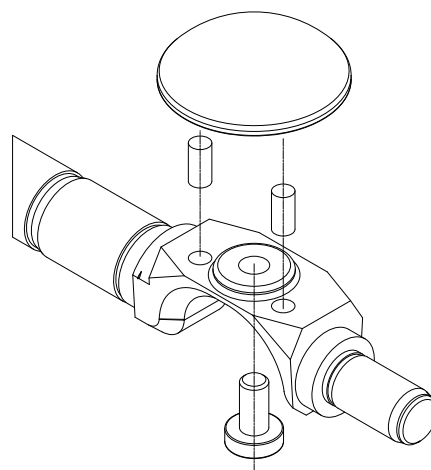

Fig.6-13.2 Assembly ball segment DN 25, series 02
**DN 25 series 02:** Make sure that the two guide pins are fitted to the ball segment. Refit the screw (→ Fig.6-13.2).